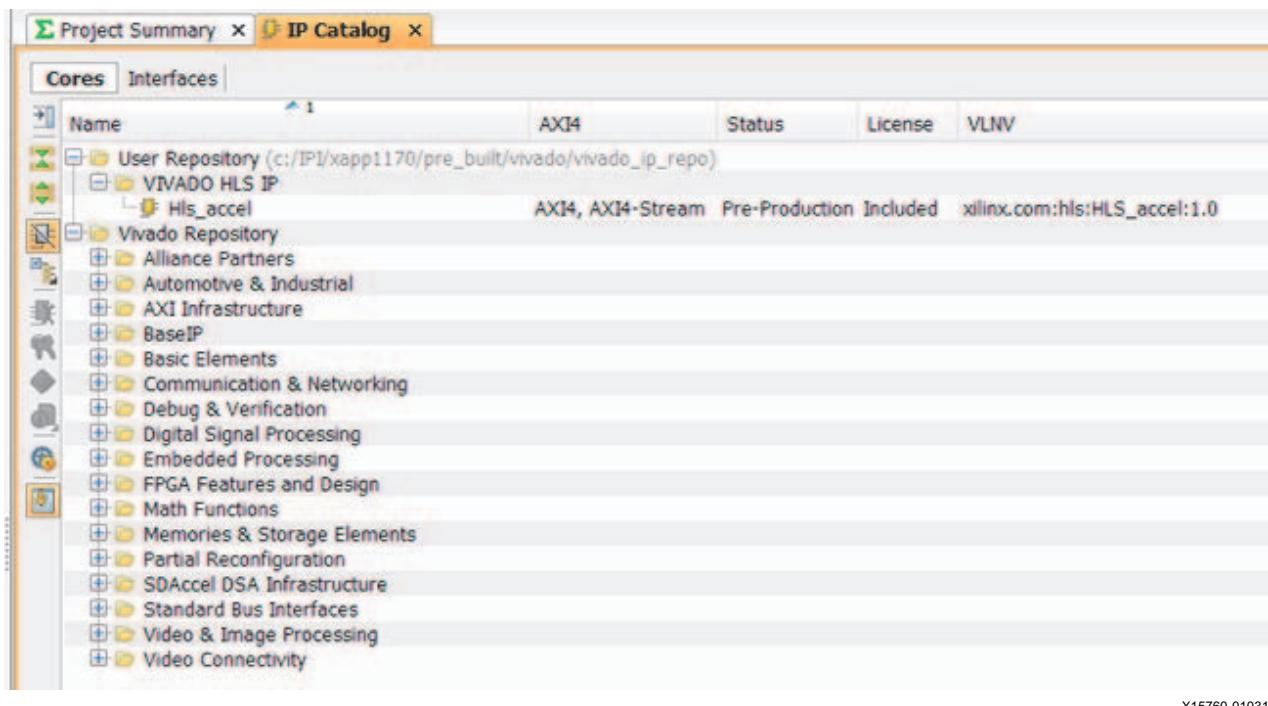

Figure 13: IP Catalog with HLS IP
- d. Click **OK**. There should now be a Vivado HLS IP category in the IP Catalog as shown in Figure 13).